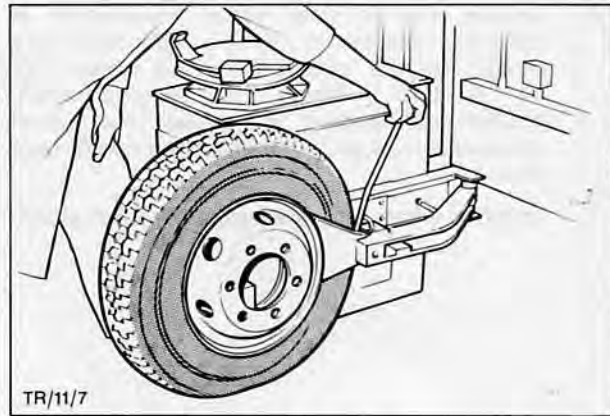

Fig. 7. Breaking tyre beads
1. Remove tyre valve core and break tyre bead, Fig. 7., on both sides of tyre.